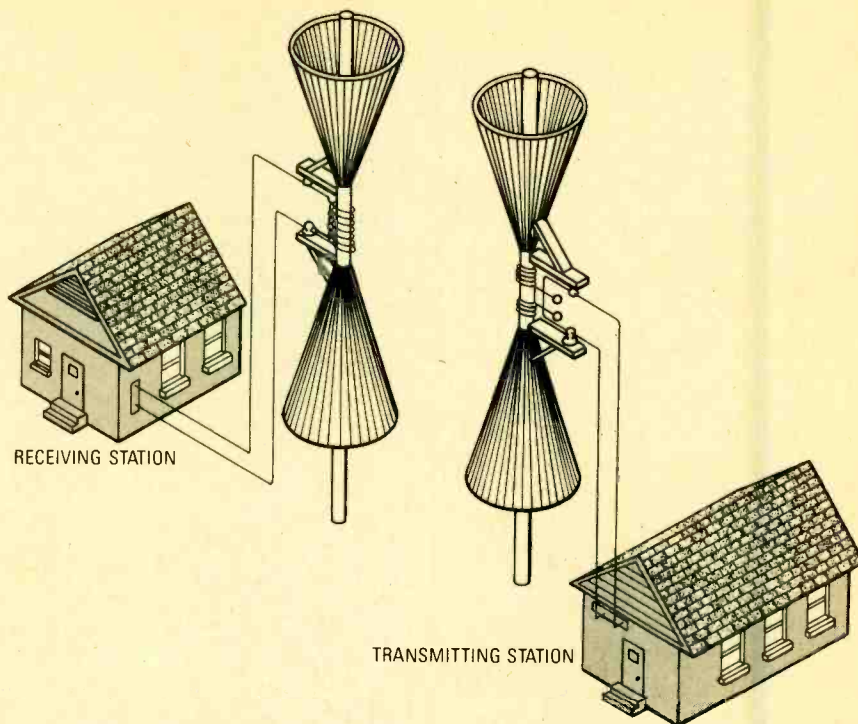

Fig. 4. Lodge's antenna designs provided frequency selectivity. The transmitter contained inductive coupling also.
The form of the antenna recommended by Lodge, however, achieved the required capacitance through construction of the dipole elements using multiple wires, or sometimes sheet metal, in the form of cones as shown in Fig. 4. Lodge then made the antenna frequency selective by adding a coil at the apex end of each of the two cones.
Fig. 4. As an option, you may want to add a DPDT switch between the output line of the CD player and the input to the circuit to allow you to select either your stereo headphones or your stereo system's speakers as the output device.
As an option, you may want to add a DPDT switch to the circuit-board assembly (as shown in Fig. 4) to allow the amp to be switched into and out of your stereo system. That arrangement allows you to select either your stereo headphones or your stereo system's speakers as the output device.
Fig. 4. The D-flip-flop can be configured to function as a toggle (T) flip-flop by connecting the D input to the Q-bar output, and connecting both the PR and CLR inputs to the positive supply rail, as shown here.
shown in Fig. 4. The clock (CLK) input of the D flip-flop then becomes the equivalent of the T input of a T flip-flop. When operated in that mode, the D flip-flop (like the device it emulates) toggles (changes states) once for each input clock pulse. As with the T flip-flop, it takes two full pulses to complete one output cycle, so the frequency of the output is half that of the input.